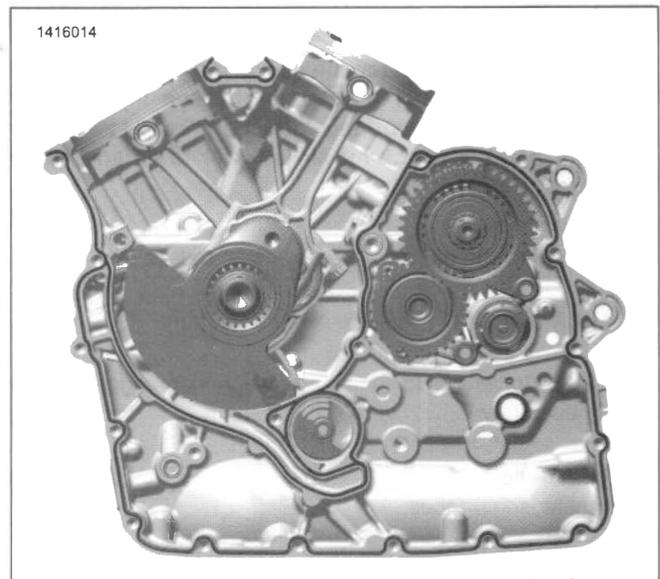

Figure 4-89. Crankcase Sealant Application
- b. See Figure 4-89. Apply a bead of sealant to specification to the split line face of right crankcase half.